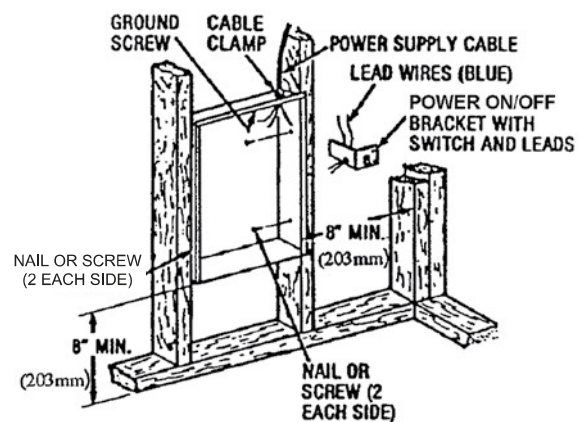

Fig. 1: Locating Back Box in New Construction
1. Mounting Back Box (See Figure 1)
- c. Secure the back box in position with wood screws or nails as shown in Figure 1.
2. Power Supply Wiring (See Figure 1)